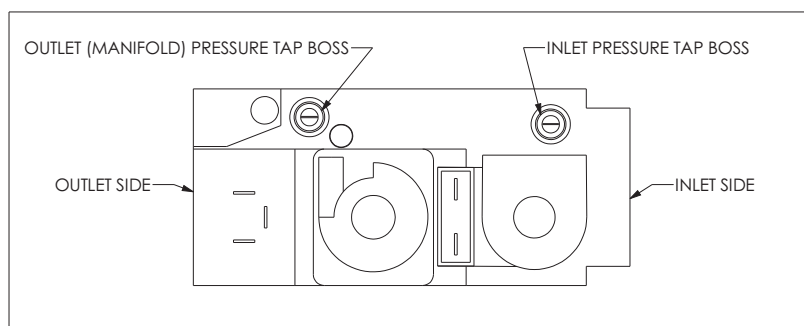

Figure 31: Honeywell Gas Control (Top View)
- If the combustion readings are outside of the specified ranges, check the manifold pressure on the gas control at the outlet pressure tap. See Figure 31 for the location of this pressure tap on the gas control. At maximum input and minimum vent lengths with 4" pipe, the manifold pressures for each model are given in Table 11.